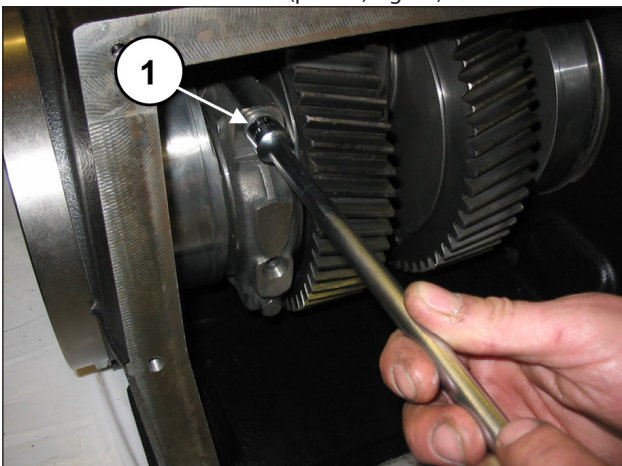

Fig. 18
Unscrew the con-rod screws (pos. ①, Fig. 18).